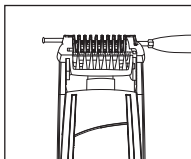
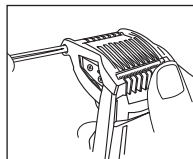

Fig. 6
Fig. 7
2. Pull out the comb guide pins (Fig.6 + Fig.7).